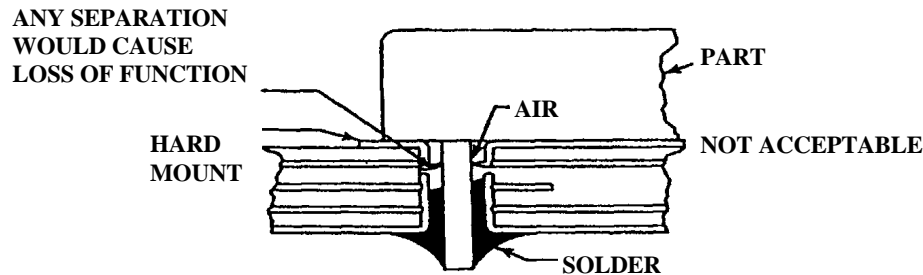

Figure 8-9. Hole Obstruction
4. **Hole Obstruction.** Parts shall not be mounted such that they obstruct solder flow or prevent cleaning of the topside termination areas of PTH's (Figure 8-9).